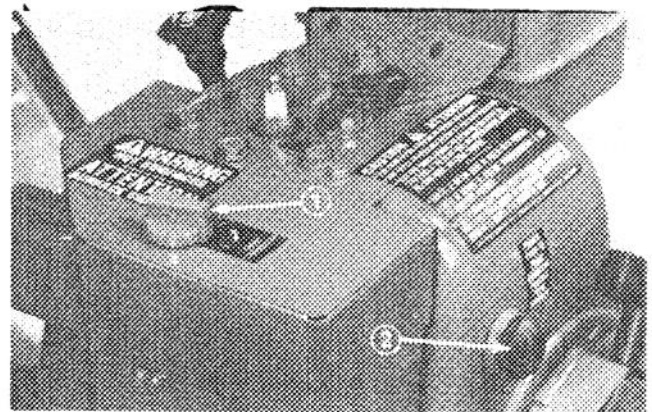

Figure 17
**Choke (Fig. 17)** – Choke is located on top of heater box. Rotate choke to FULL choke position to start a cold engine. As engine warms up, rotate choke gradually to OFF.
**Primer (Fig. 17)** – Press primer to pump small amount of gasoline into engine for improved cold weather starting.